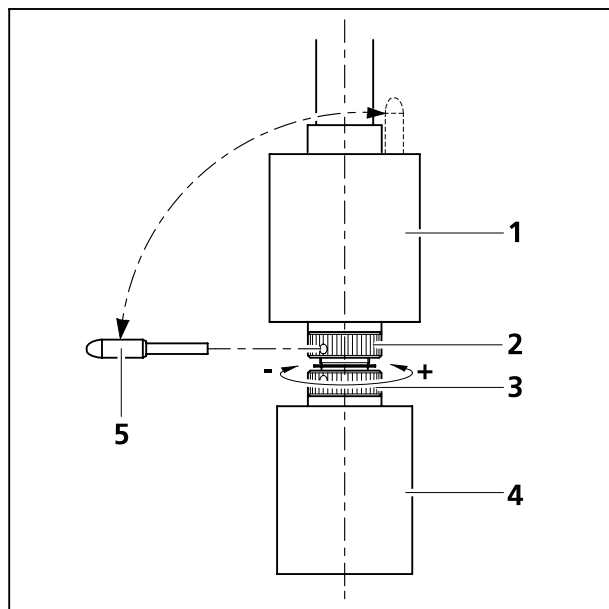

Fig. 2-33 Setting the torque
- Hold the drive knob for x adjustment (2-33/4) and turn the nut with the adjustment pin clockwise (lesser torque: -) or counterclockwise (greater torque: +) until the desired adjustment is reached (refer to Fig. 2-33).